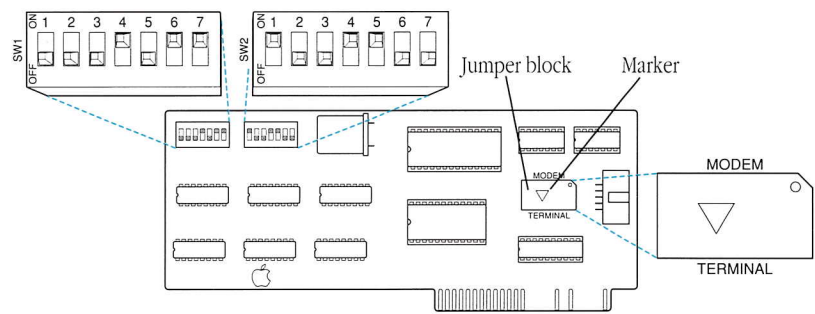

Figure 4-8 The Apple II Super Serial Card
Configuring the Apple II Super Serial Card takes two steps: setting the jumper block and setting the DIP switches. (See Figure 4-8.)
2. Set the switches as indicated in Table 4-1 and Figure 4-8.